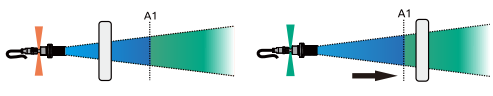

Figure 16 - Single trigger when target is removed
- When the moving distance (S) of the object is greater than the set distance (A1), the output signal switches. The working principle is shown in Figure 16. When operating, it is necessary to set a custom user range: $A1 = S, A2 \rightarrow \infty$